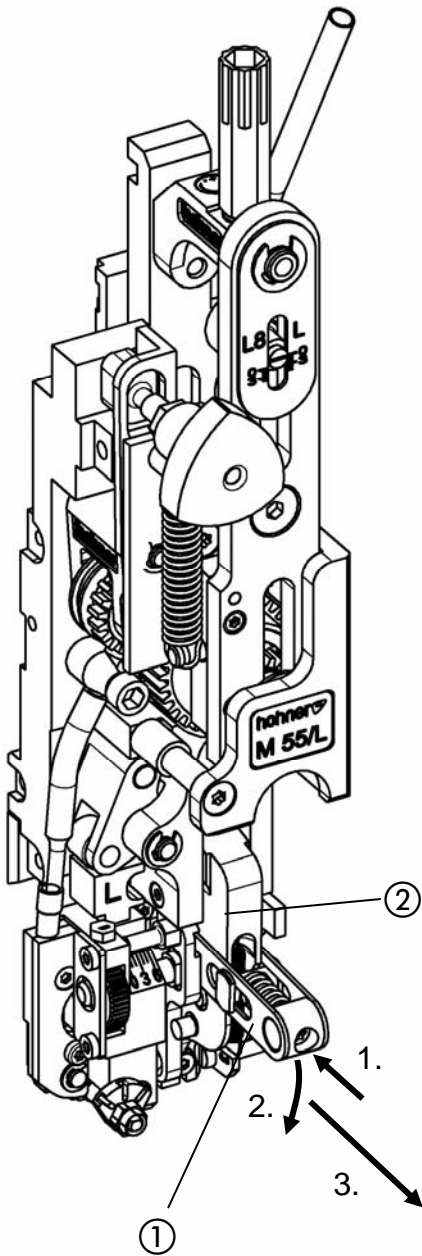
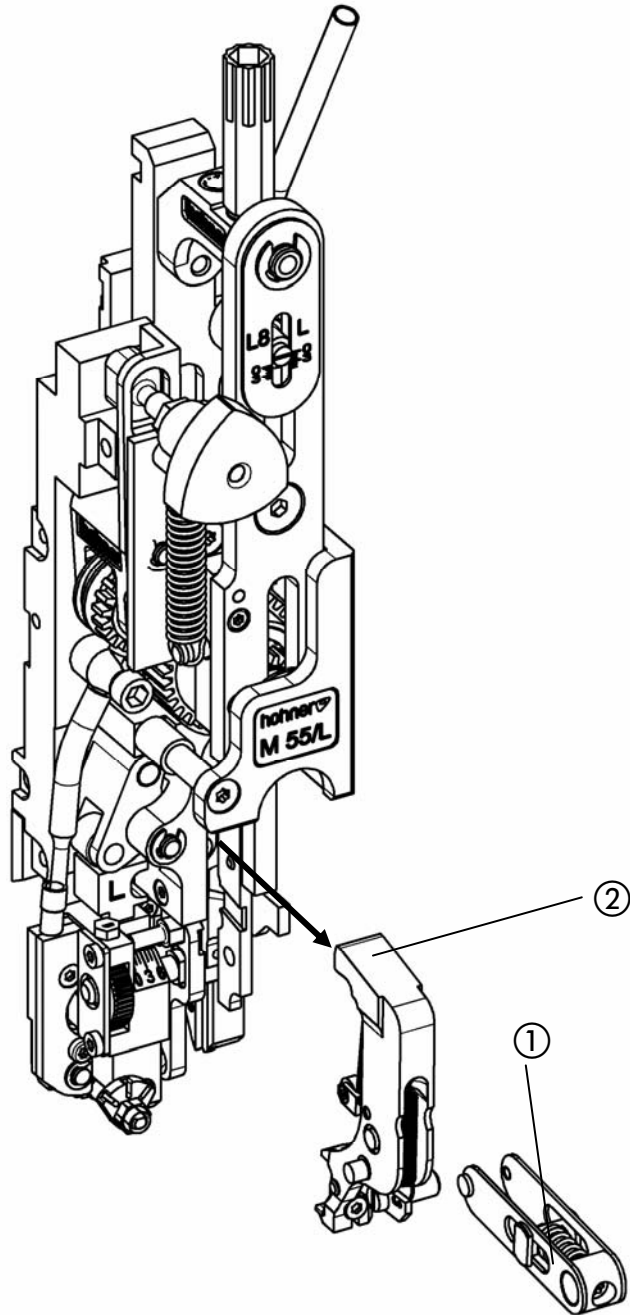

Fig. 19
Fig. 20
- Fig. 19, Fig. 20 -
- Slightly press in gripping yoke ①, swing down and pull out.
- Remove former ② to the front.